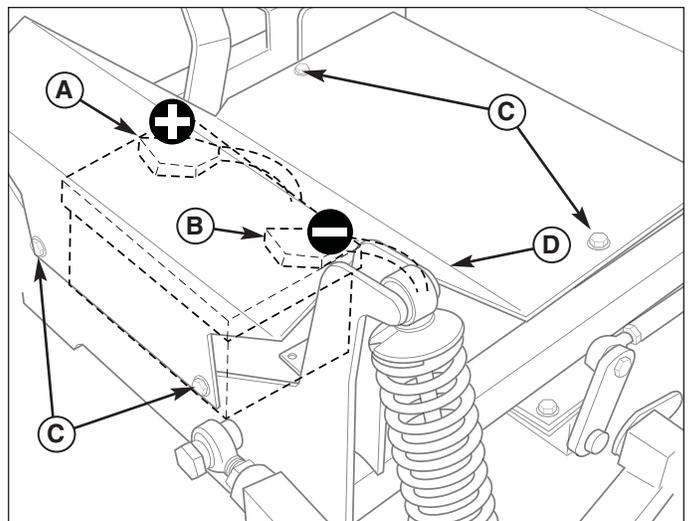

Figure 3. Battery Compartment
1. Remove the floor pan mounting hardware (C, Figure 3) and remove the floor pan (D) to expose the battery.
2. Connect the red positive battery cable (A) to the positive battery post.
3. Connect the black negative battery cable (B) to the negative battery post.